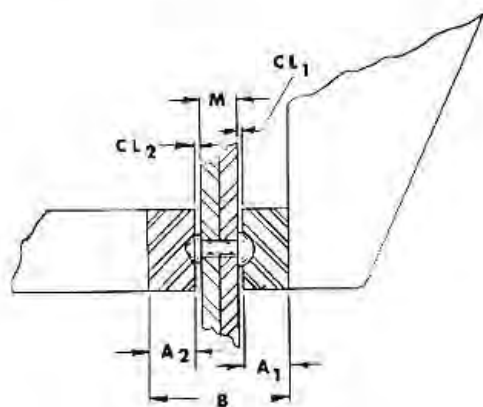

FIG. 7
(D) Driving a modified cone head on a rivet requiring a cupped set (figure 7).